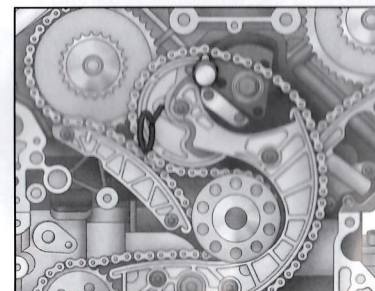

Fig.47
- (3) Remove the bolts and sprocket from the balance shaft. (Fig.47)